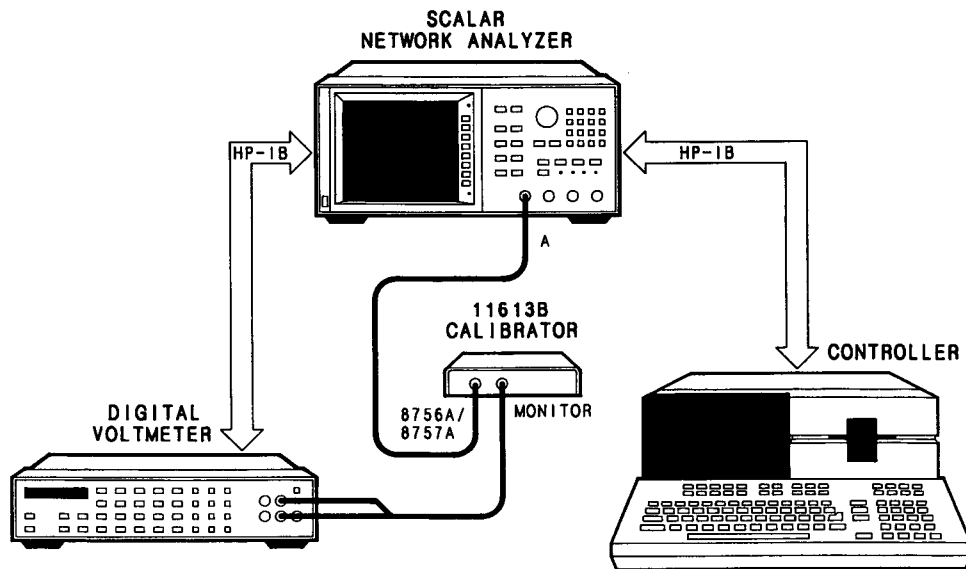

Figure 6-4. Test Setup for Operator's Check with HP 3456A DVM
2. Configure the instruments as shown in Figure 6-4 and as indicated by the CRT prompts.